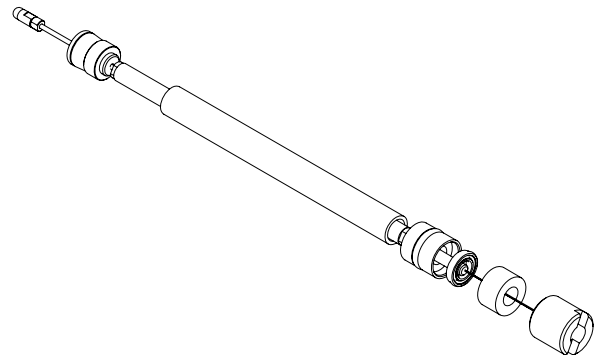

Figure 41: Needle Shaft Packing Replacement
1. Install pusher seal, rear u-cup, rear spreader seal, front u-cup seal, front spreader seal as shown. Orient seals per Figures 41 and 43.